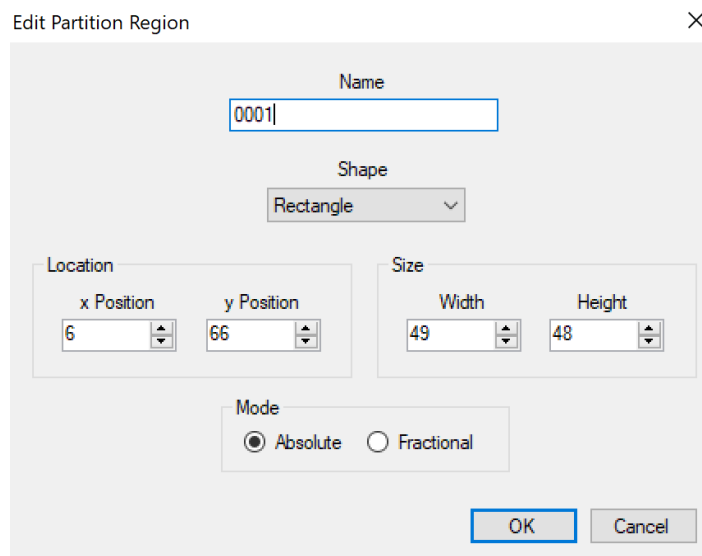

Figure 3.26 A Partition ROI Properties Window
- Right-clicking inside any ROI and choosing **Edit...** allows the region name to be changed as well as the Shape, Location, Size, and whether the units are absolute or Fractional (**Figure 3.26**). Click **OK** when complete.